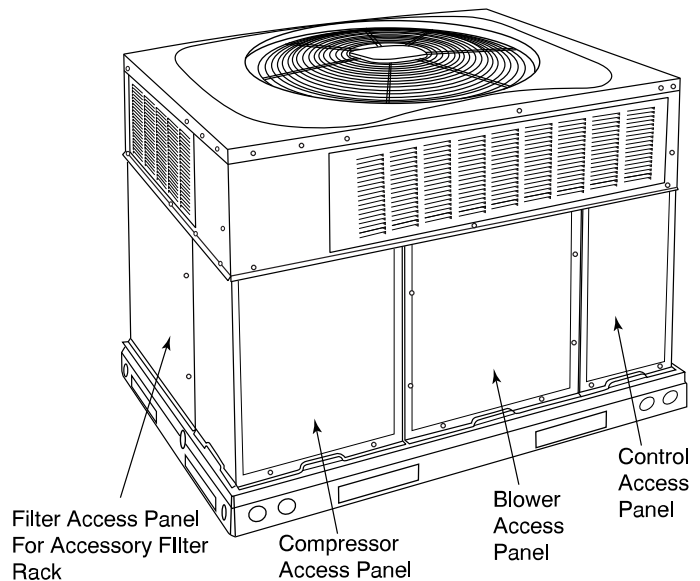

Fig. 2 – Unit Access Panel
Refer to Fig. 2 for location of unit front access panel. Refer to Fig. 3 for location of gas valve. Refer to Fig. 4 while proceeding with the following steps.
4. Remove the control access panel with a 5/16-in. nut driver. (See Fig. 2.)
4. Remove the control access panel. (See Fig. 2.)
To replace or inspect filters in accessory filter rack (See Fig. 2):